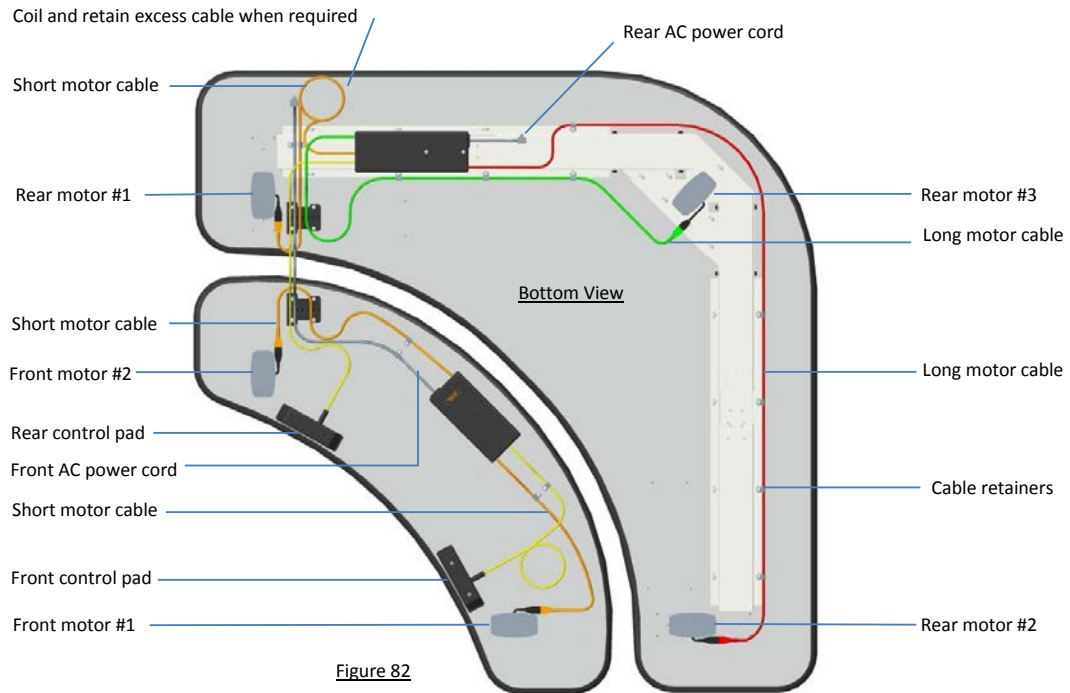

Figure 82
Figures 82 and 83 show the wiring of a typical corner sit-to-stand desk with (3) rear lift motors and (2) front lift motors (PEC60602). However, some desks will only have (2) rear lift motors and (or) a manual counterbalanced front work surface with no lift motors. Note the lift motor numbers in figure 82; connect the motors to the corresponding numbered receptacles on each control box. Connect one control pad to the "A1" receptacle on each control box. Ensure that all cable retention devices are properly engaged when plugging in the cables.